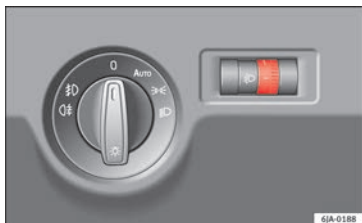

Fig. 46 Instrument panel: light range control.
- Turn the control » Fig. 46 to set the lights to the required setting.